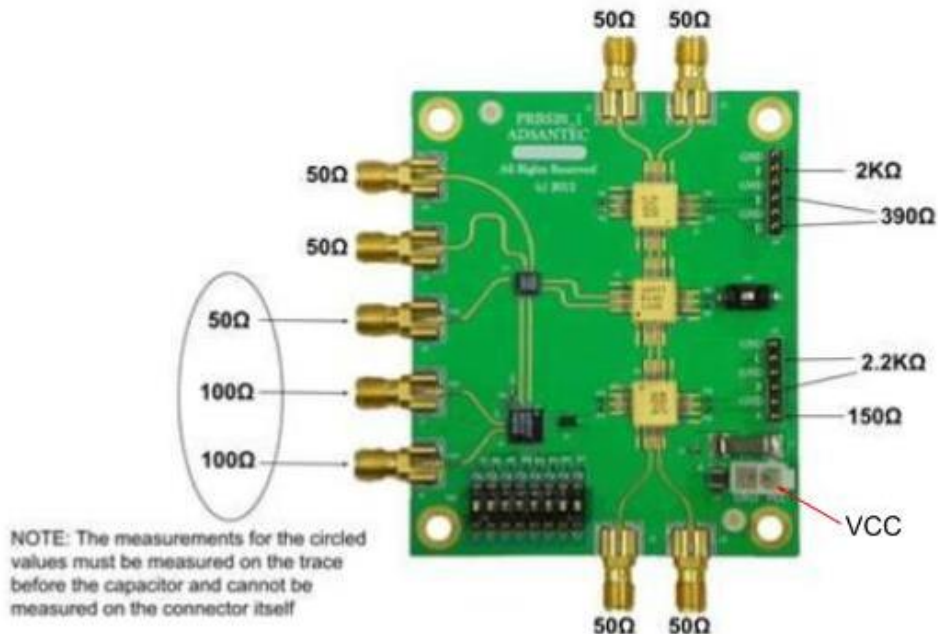

Fig. 5. Ohmic Measurement Diagram
1. Measure ALL I/O's on board according to **Fig. 5** in relation to VCC.